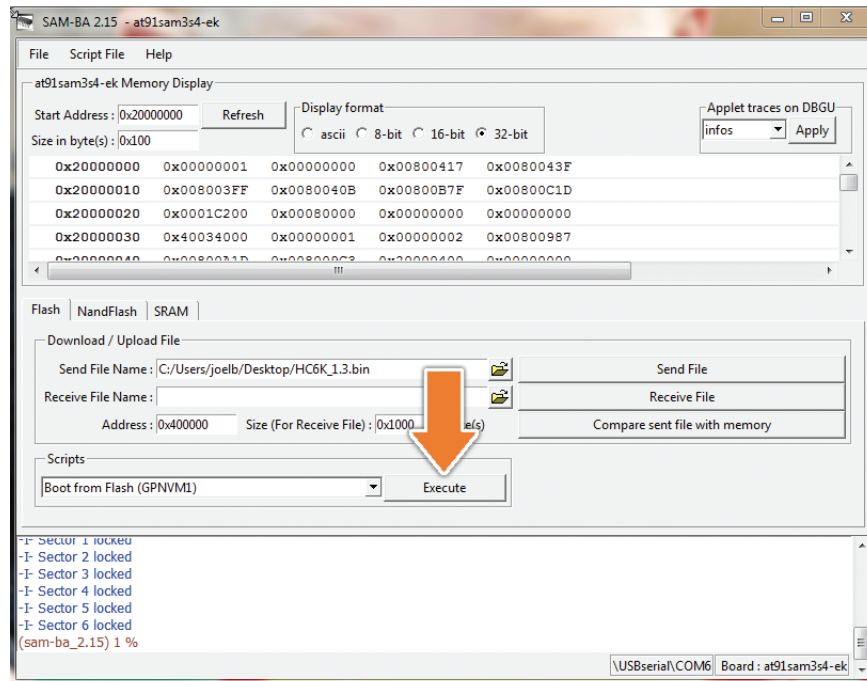

Fig. 45-2 Press the Execute Button
- When sending has finished press the Execute button. See Figure 45-2.